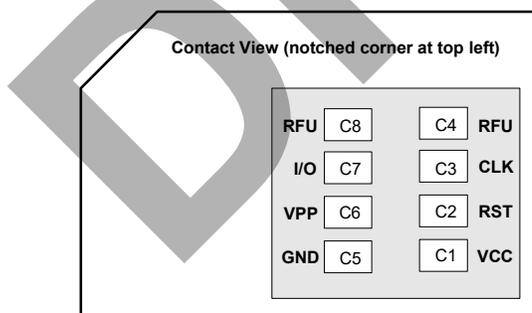

Figure 2-3: SIM Card Contacts (Contact View)
a. See Figure 2-3 on page 23 for SIM card contacts.